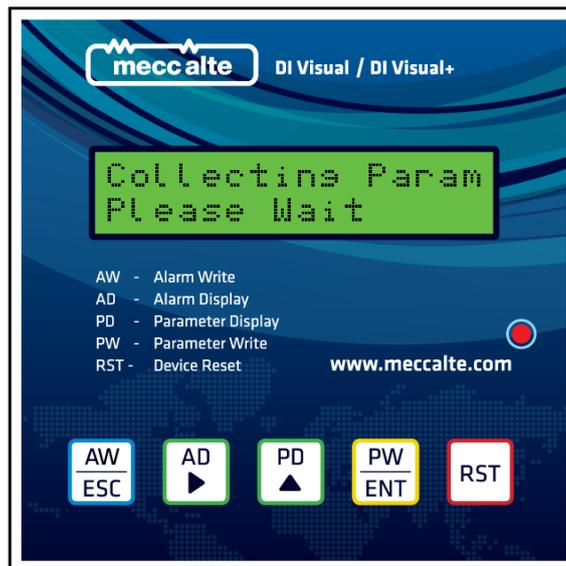

fig. 22
- 2) Once the SD card is inserted keep **PW/ENT** key as shown above pressed until you see “Collecting Param” message on the display as shown in Fig. 22 below.